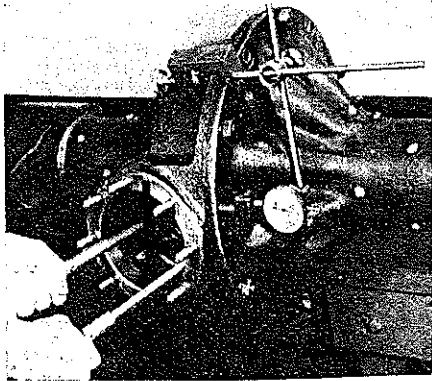

Fig. 178 Checking differential and gear end play with dial indicator through thrust block pin hole
7. Check differential and gear assembly end play with dial indicator through thrust block pin hole against gear, Fig. 178. Both differential bearing preload and gear lash are controlled by selective spacers, available in thickness steps of .003", which are installed between the differential bearing cups and the case and cover halves of the axle housing. Bearing preload may be increased or decreased by using a thicker or thinner spacer respectively in the cover half of the assembly. The gear may be moved toward the pinion, decreasing the gear lash, by decreasing the thickness of the spacer in the case half and increasing the thickness of